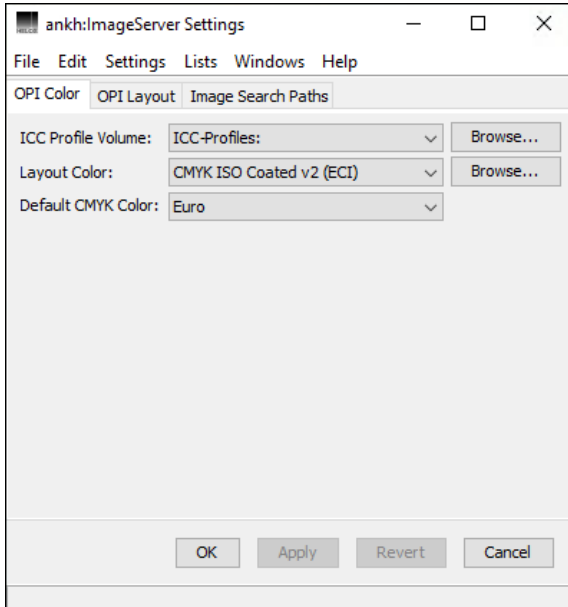

Fig. 4.1: Defining `OPI Color` preferences
- Select `Settings > ImageServer Settings` from the HELIOS Admin menu to open the `OPI Color` tab (Fig. 4.1).